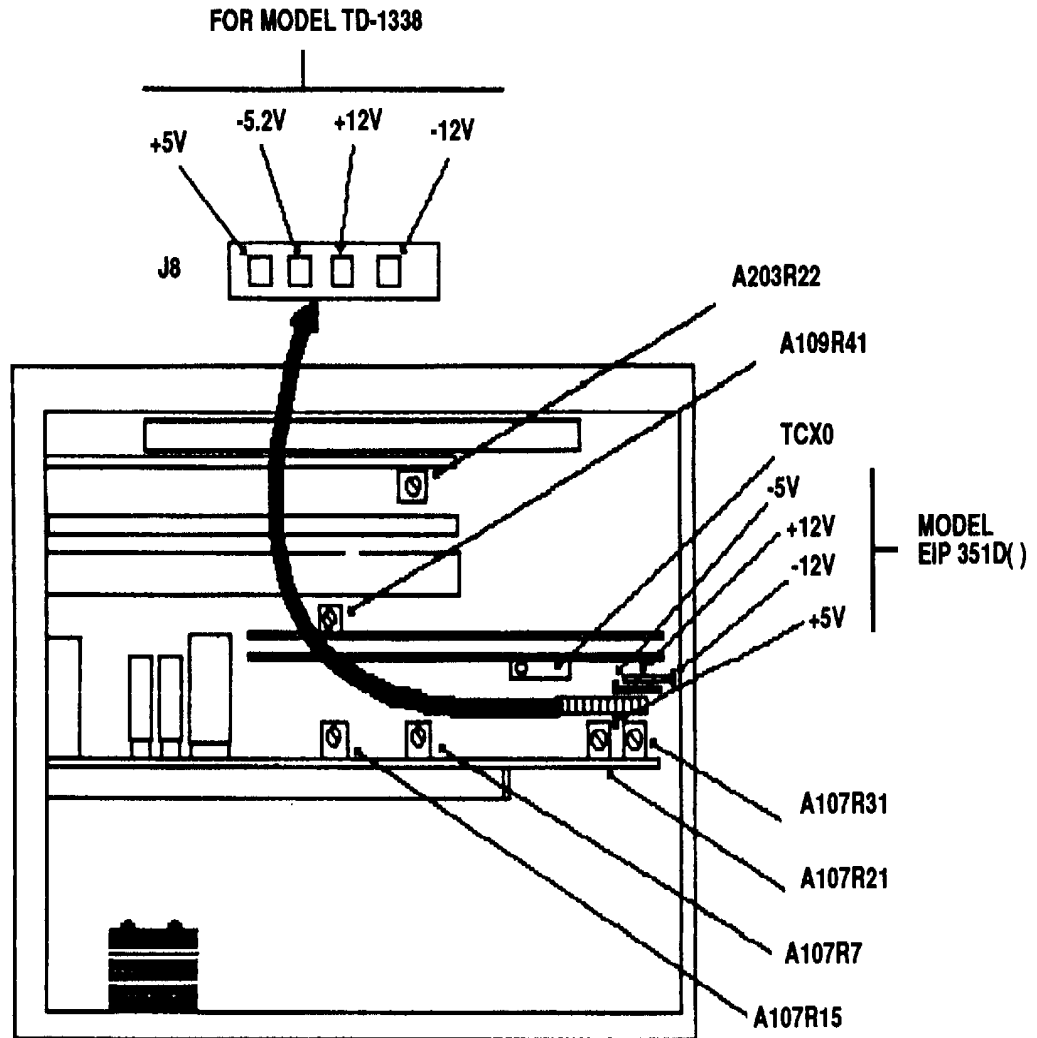

Figure 1. Test instrument - top view.
- (1) Connect multimeter between +12V test point (fig. 1) and chassis ground. If multimeter does not indicate between 11.99 and 12.01 V dc, adjust A107R7 (fig. 1).
- (2) Connect multimeter between +5V test point (fig. 1) and chassis ground. If multimeter does not indicate between 4.99 and 5.01 V dc, adjust A107R15 (fig. 1).
- (3) Connect multimeter between -12V test point (fig. 1) and chassis ground. If multimeter does not indicate between -11.99 and -12.01 V dc, adjust A107R21 (fig. 1).
- (4) Connect multimeter between -5V test point (fig. 1) and chassis ground. If multimeter does not indicate between -5.19 and -5.21 V dc, adjust A107R31 (fig. 1).
(1) Disconnect external time base input, if applicable, from rear panel **10 MHz** jack of TI, and set **TIME BASE INT-EXT** switch to **INT**.
(2) Connect time/frequency workstation **OUTPUT 1 MHz** to frequency difference meter **REF INPUT**.
(3) Connect TI **TIME BASE 10 MHz** (rear panel) to frequency difference meter **SIG INPUT**.
(4) Adjust TCX0 (fig. 1) for frequency difference meter indication of less than 1 part in 10^9 .
(5) Disconnect frequency difference meter from TI.
(6) Replace external time base input if removed in (1) above and set **TIME BASE INT-EXT** switch to **EXT**.
(1) Set signal generator frequency to 100 MHz and level output to -15 dBm.
(2) Adjust A109R41 (fig. 1) until TI displays a stable count of applied frequency (R).
(3) Slowly reduce signal generator level output until TI display becomes erratic.
(4) Readjust A109R41 (fig. 1) until TI indication drops to all zeros.
- (1) Set signal generator frequency to 8 GHz and level output to -20 dBm.
- (2) Slowly reduce signal generator level output while pressing **RESET** switch until TI no longer accurately displays applied frequency.
- (3) Adjust A203R22 (fig. 1) until TI again displays a stable indication of applied frequency (R).
- (4) Repeat (2) and (3) above until TI displays a stable indication of applied frequency at -30 dBm or less input level.
Optimum setting of A203R22 (fig. 1) provides stable display of applied frequency at -30 dBm or less and an indication of 0 below the threshold level.
- (1) Connect multimeter between -5.2V test point (fig. 1) and chassis ground. If multimeter does not indicate between -5.19 and -5.21 V dc, adjust A107R31 (fig. 1).
- (2) Connect multimeter between -12V test point (fig. 1) and chassis ground. If multimeter does not indicate between -11.99 and -12.01 V dc, adjust A107R21 (fig. 1).
- (3) Connect multimeter between +12V test point (fig. 1) and chassis ground. If multimeter does not indicate between 11.99 and 12.01 V dc, adjust A107R7 (fig. 1).
- (4) Connect multimeter between +5V test point (fig. 1) and chassis ground. If multimeter does not indicate between 4.99 and 5.01 V dc, adjust A107R15 (fig. 1).